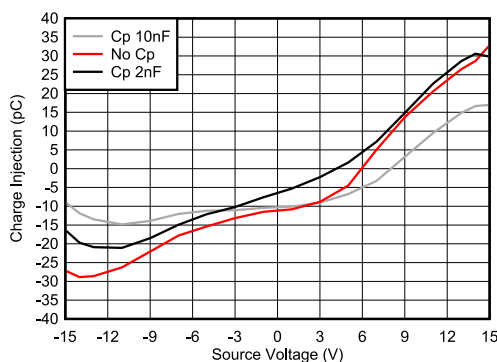

图 8-2. Charge Injection Compensation
The TMUX7219 contains specialized architecture to reduce charge injection on the source ( $S_x$ ). To further reduce charge injection in a sensitive application, a compensation capacitor ( $C_p$ ) can be added on the drain (D). This will ensure that excess charge from the switch transition will be pushed into the compensation capacitor on the drain (D) instead of the source ( $S_x$ ). As a general rule,  $C_p$  should be 20× larger than the equivalent load capacitance on the source ( $S_x$ ). 图 8-2 shows charge injection variation with source voltage with different compensation capacitors on the drain side.